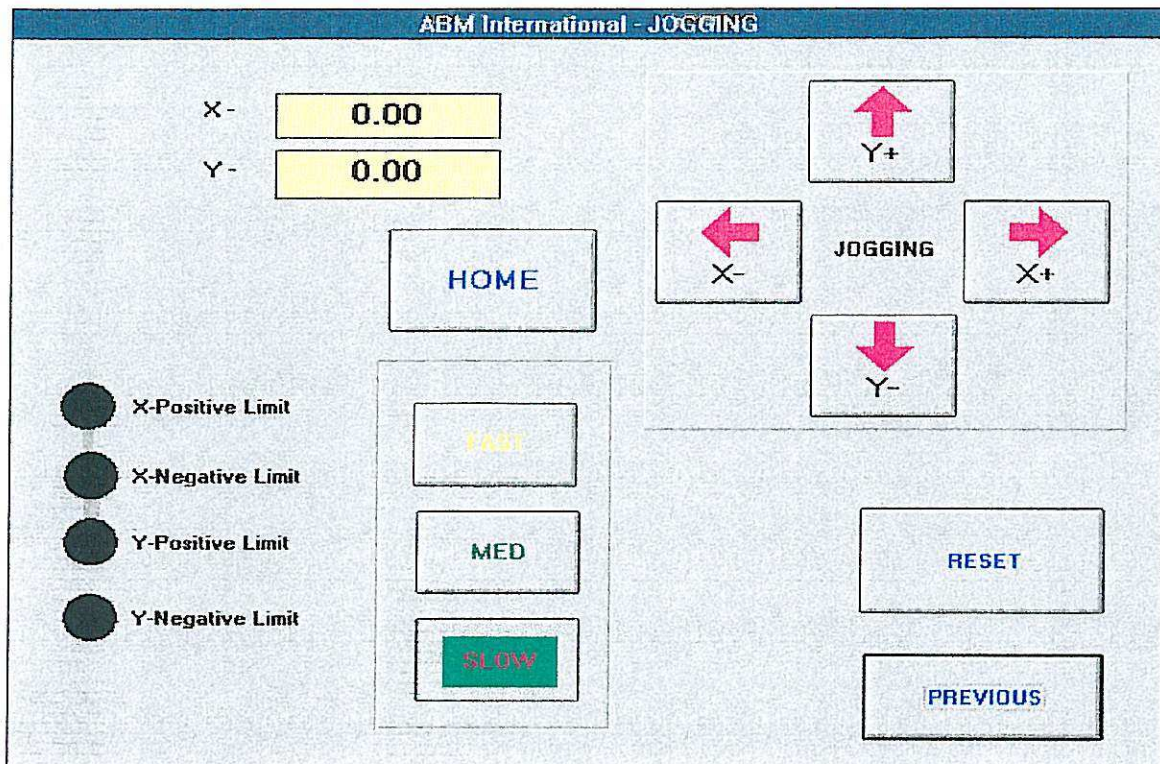

Figure 4.11
- E. The home position point (0,0) is based on the original pattern design. To set home, press the "Home" key. A jog screen will appear. See *Figure 4.11*. Choose a jogging speed by pressing either the "Slow", "Medium" or "Fast" keys. Then press the "Arrow" of the direction to jog and move the machine to the desired location. Press the "Home" key to set the machine's position at 0, 0.